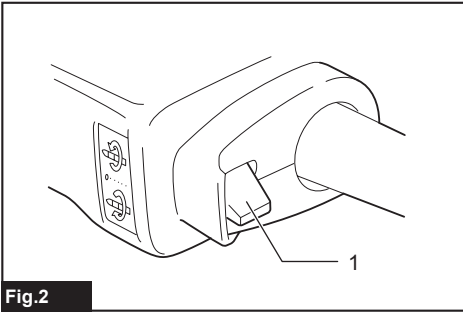

Fig.2
- Fig.2: 1. Reversing switch lever